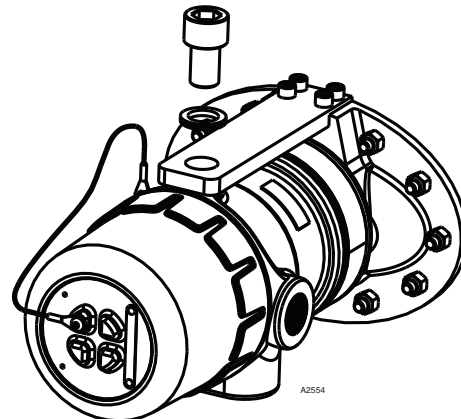

Figure 5—Attach Detector to Flange Mount Assembly Using Bolt and Washer Provided
8. Insert the detector into the hole of the flange mount assembly. If needed, lubricate the flange mount O-ring with a silicone-free grease. Do not twist the detector when installing it into the mount as this could damage the electronics in the sensor module. Line up the bolt hole on the detector with the hole in the top bar on the flange mount assembly. See Figure 5.